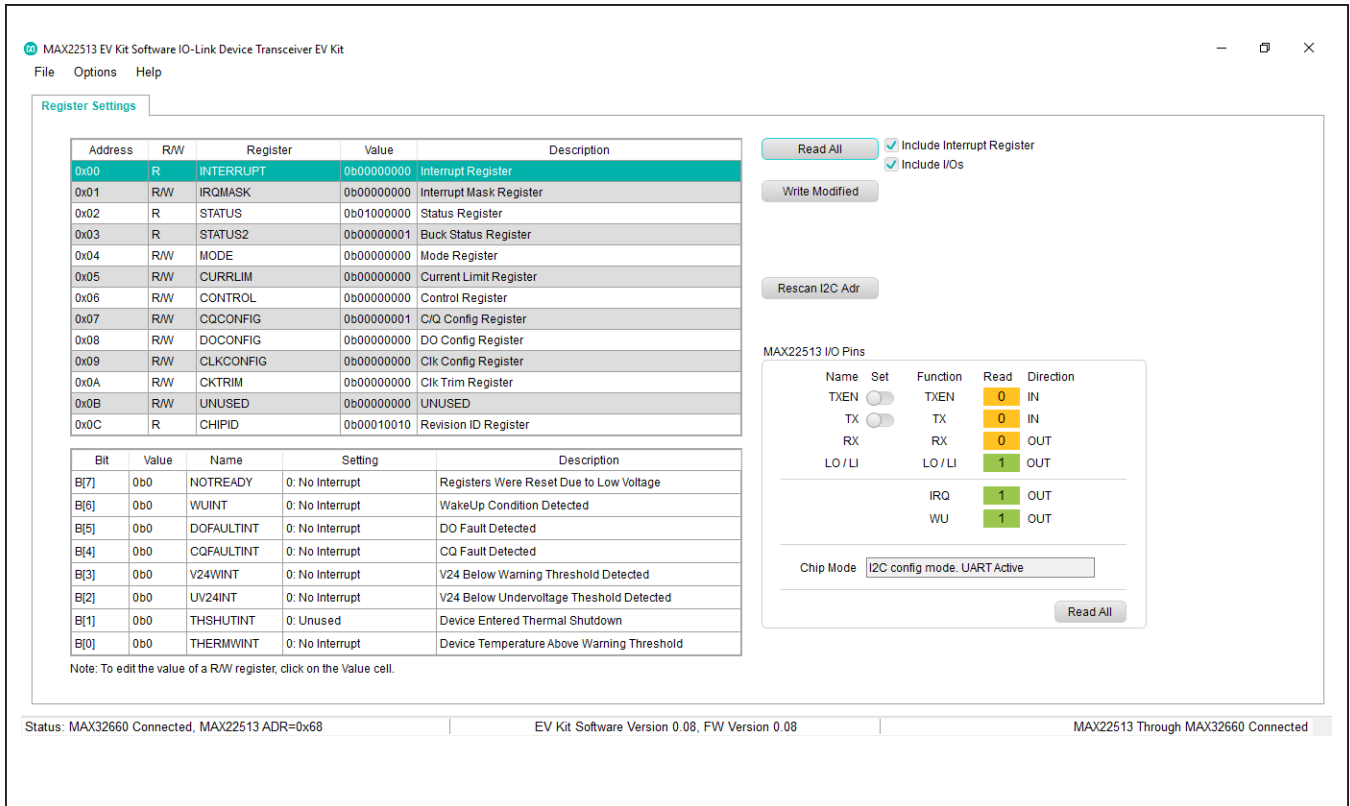

Figure 1. MAX22513 EV Kit Software, EV Kit is Connected
- 8) Start the EV kit software by opening its icon in the Windows **Start | Programs | Maxim Integrated** menu. The EV kit software main window appears, as shown in Figure 1.
- 9) Verify that **Status: MAX32660 Connected, MAX22513 ADR = 0x68** is displayed on the status bar at the bottom left of the main window (Figure 1).